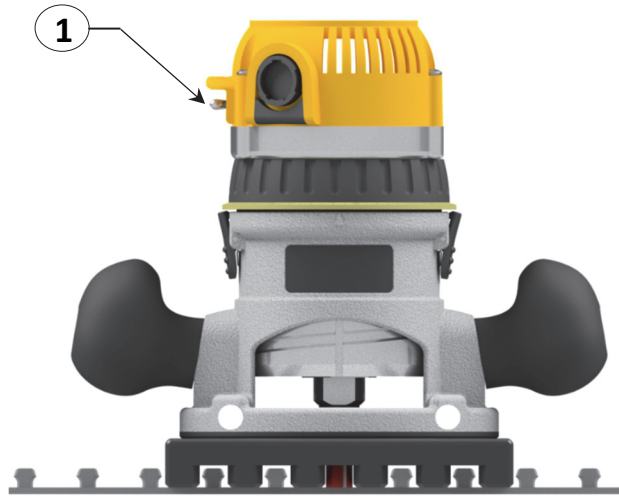

Figure 5.4
- d) Once the router attachment is flush to the liner, flip the power switch (*Item 1, Figure 5.4*) to the 'ON' position. Note, router shown without power cord.